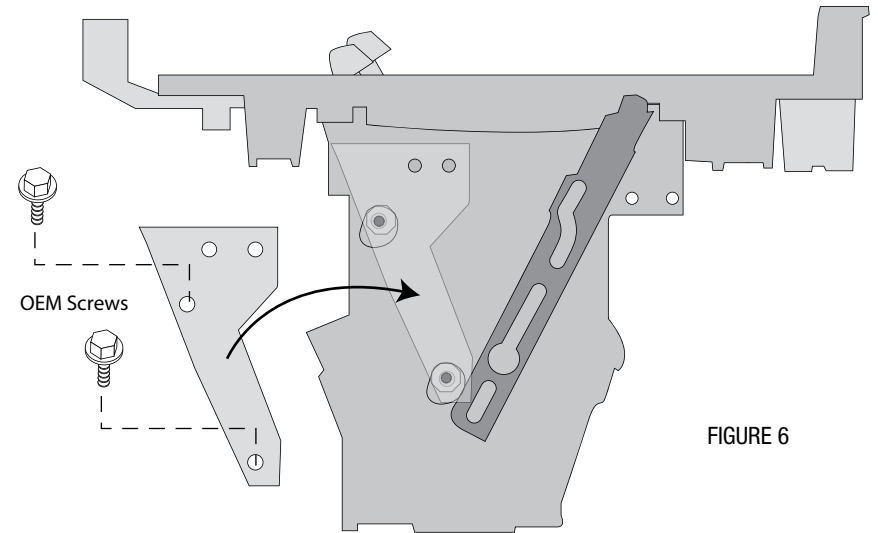

FIGURE 6
1) Attach the blower switch brace bracket to the control head, using the OEM screws and OEM holes on the control head (see figure 6).